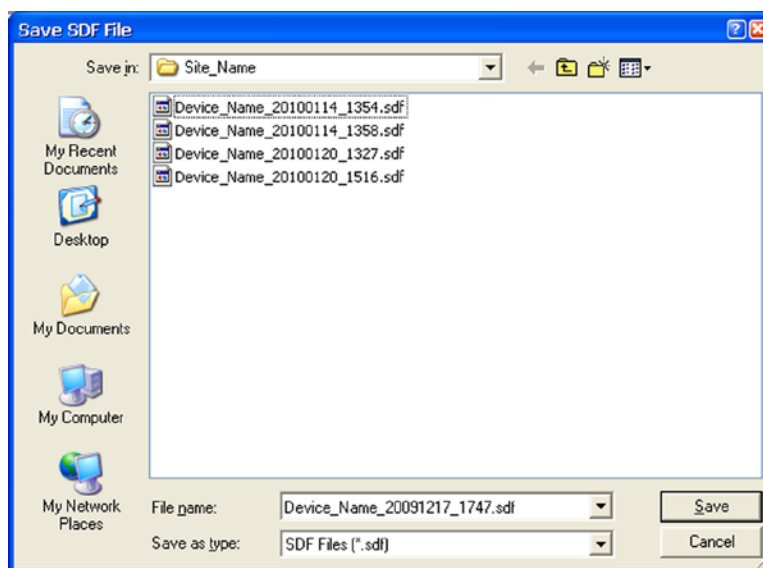

Figure 14.24
3. The Save SDF File dialog will appear (Figure 14.24). To change the file path and/or file name from the defaults listed below, browse to the desired file path and/or type the desired entry in the field provided. See Log Directory and Filenames, page A-17 for more information.